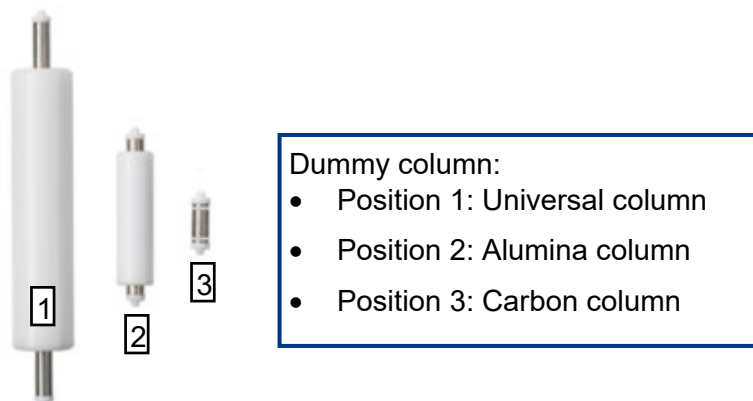

Figure 76: Dummy columns and their respective position in the column tower.
- ➔ Insert each dummy column only in its intended position (see Figure 76).
- ➔ To prevent an impact, columns 1 and 2 must be inserted into the column tower with the hole visible at the front (Figure 76).